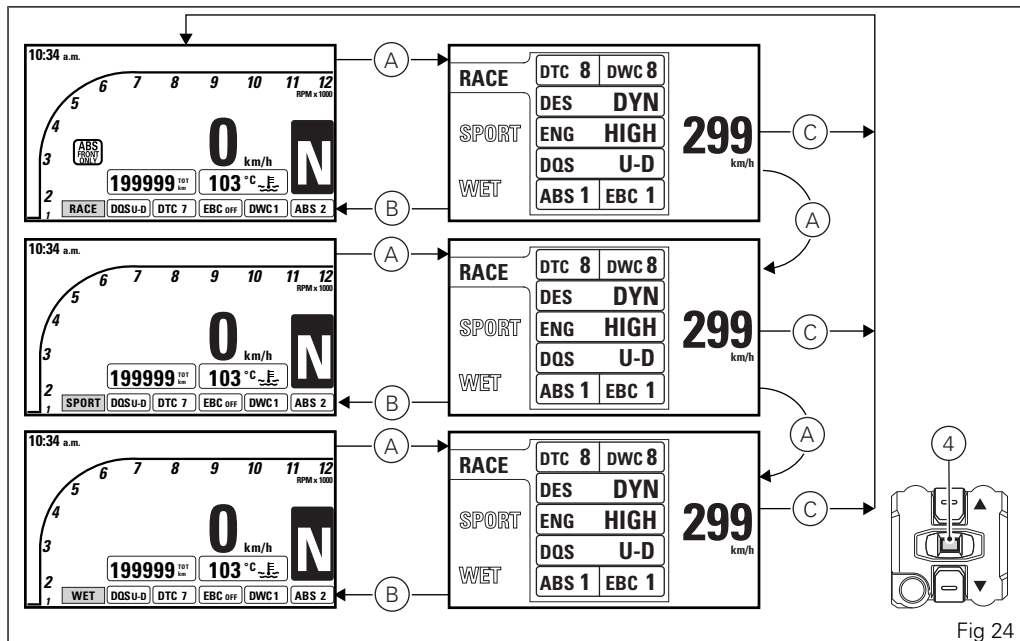

Fig 24
The displayed information are the settings stored in every single Riding Mode. The stored settings may be the factory ones (Ducati default settings) or the ones customized by the owner. Any time the CONFIRM MENU button (4) is pressed, you highlight a riding mode and the associated parameters are displayed (A, Fig 24).
Once the desired riding mode is highlighted, confirm the selection by holding down the CONFIRM MENU button (4) for 2 seconds: the new riding mode selection is saved and the Standard Screen is displayed (B, Fig 24).
Once the desired riding mode is highlighted, if the CONFIRM MENU button (4) is not pressed within 10 seconds, the new riding mode selection is not stored and the Standard Screen is displayed (C, Fig 24).